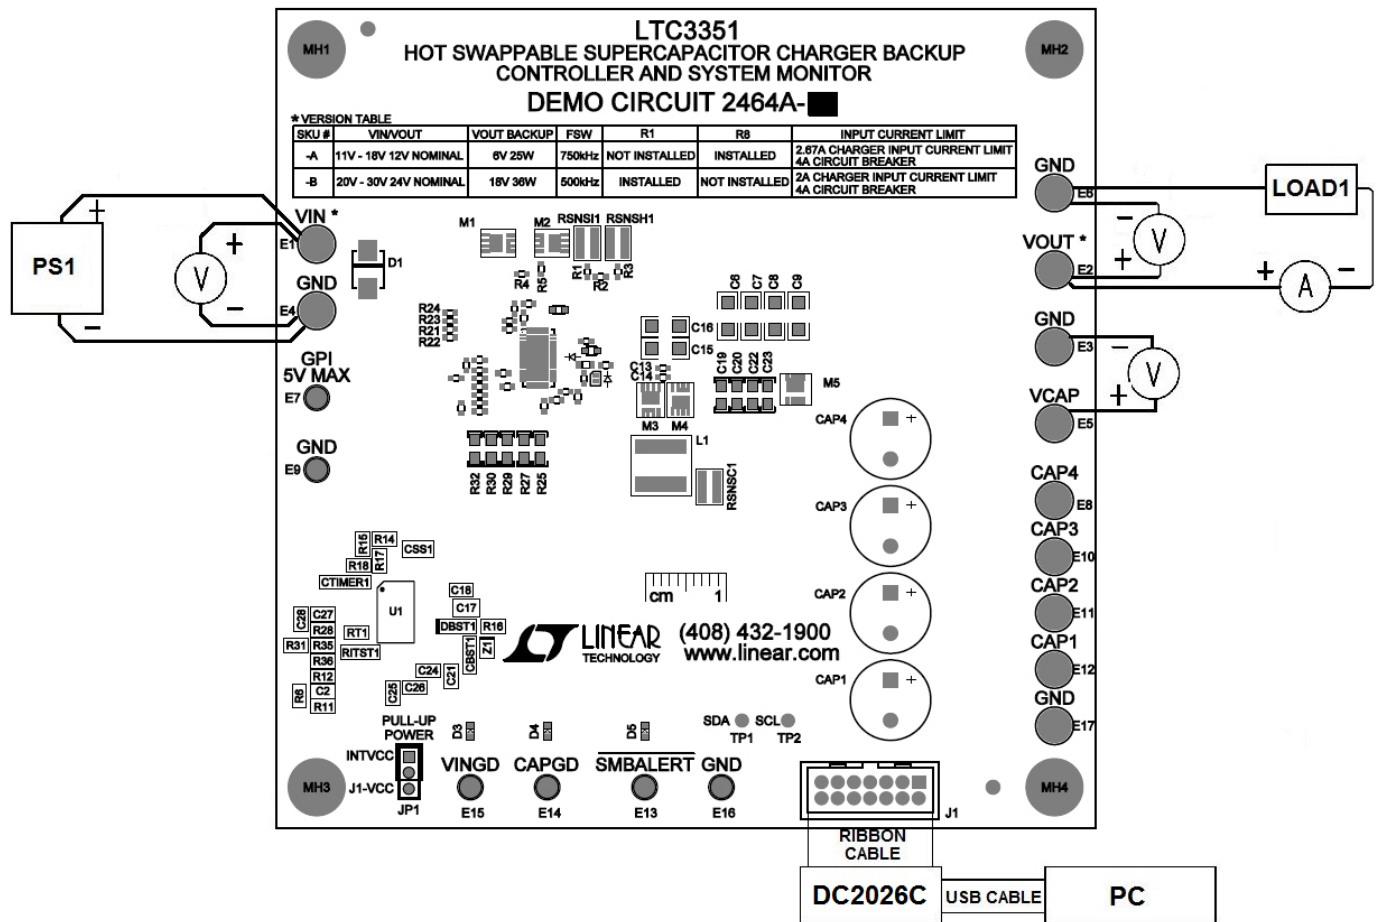

Figure 4. Proper Measurement Equipment Setup
Obtain and connect a DC2026C board to the DC2464A board. Use short twisted pair leads for the power connections and start with the LOAD and the power supply OFF. Refer to Figures 4 and 5 for the proper measurement and equipment setup and follow the procedure below.
6. With power off, connect the appropriate supply, 0V to 20V (or 30V), 25W (or 36W) supply between the V_{IN} and GND terminals for the DC2624A-A or DC2624A-B as shown in Figure 4.